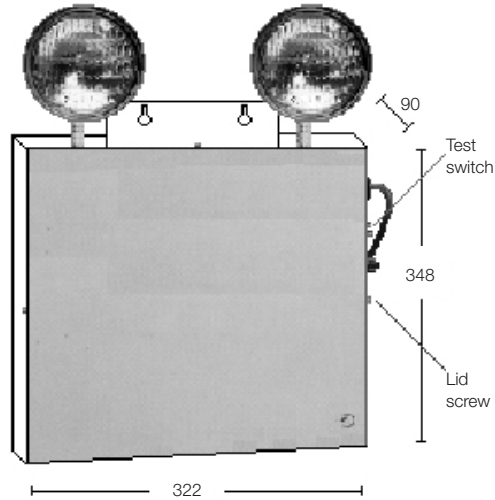
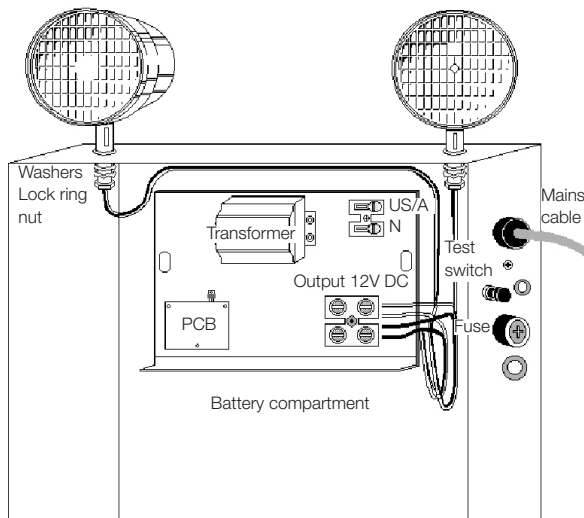

Figure 1: Flood light with beams installed
Figure 2: Flood light lamp/beams connection diagram
4. Remove the lid by unscrewing 3 screws as shown in figure 1. Install both the beams using washer and lock ring nut (refer to figure 2).
5. Connect the beam/lamp cables as shown in figure 2 using a suitably sized screwdriver. Ensure that the stripped wire ends are completely inserted into the terminal block and no bare conductors are exposed to the metal.